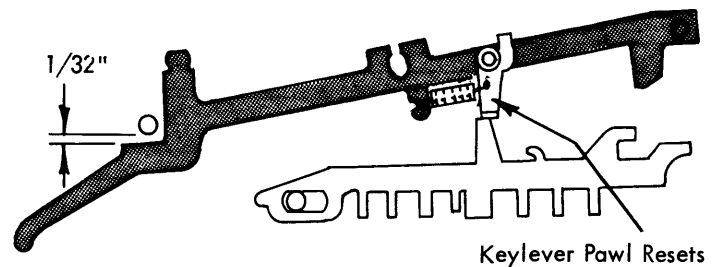

FIGURE 10. Front Keylever Guide Comb
10. Front Keylever Guide Comb - Position the guide comb vertically to allow the keylevers to travel $1/32$ " after the keylever pawl resets (Fig. 10).